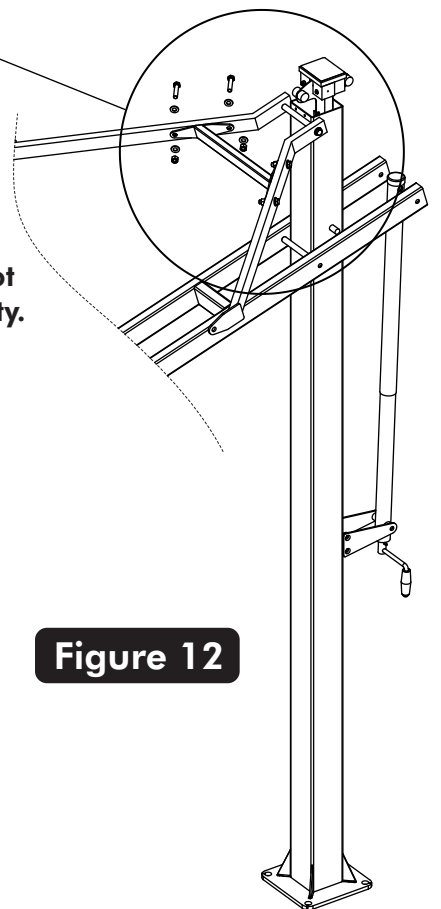

Figure 12
22. With the help of another adult attach the Cross brace (#52) with four Bolts (#50), eight Washers (#51) and four Nuts (#4) as shown in Figure 12 and Detail C.
27. Mount Goal Assembly (#28) and Rim Pad (#27) to Backboard, as shown in Figure 12, using four bolts (#29), washer (#26) and four nuts (#24). Tighten Fasteners but leave loose enough to level rim.